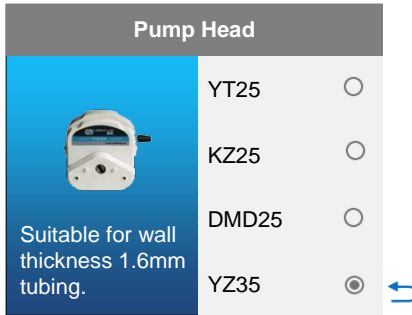

Figure 25 Pump Head Selection
- **Pump Head:** Choose the model of the installed pump head and swipe up and down to view the menu, as shown in Figure 25.